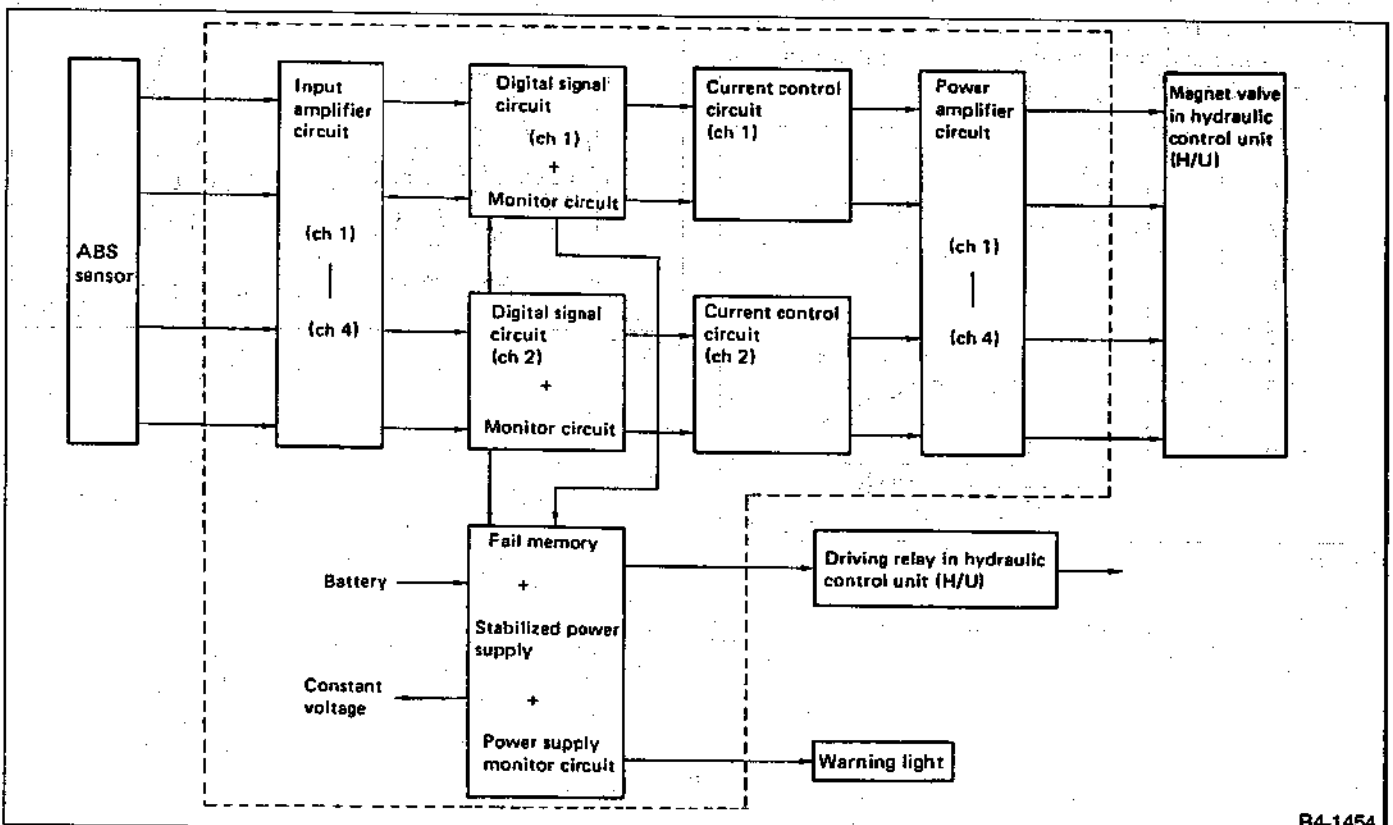

Fig. 36
2) Figure 36 shows a block diagram of the electronic circuits. When the ABS sensor sends an alternating voltage corresponding with the wheel speed to the input